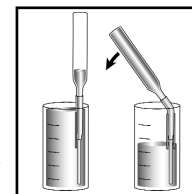

Figure 5
8. Place the VACUette between the vertical tip guides on the inside of the dilutor snapper cup. Snap the ampoule tip. The ampoule will fill leaving a bubble for mixing (fig. 5).